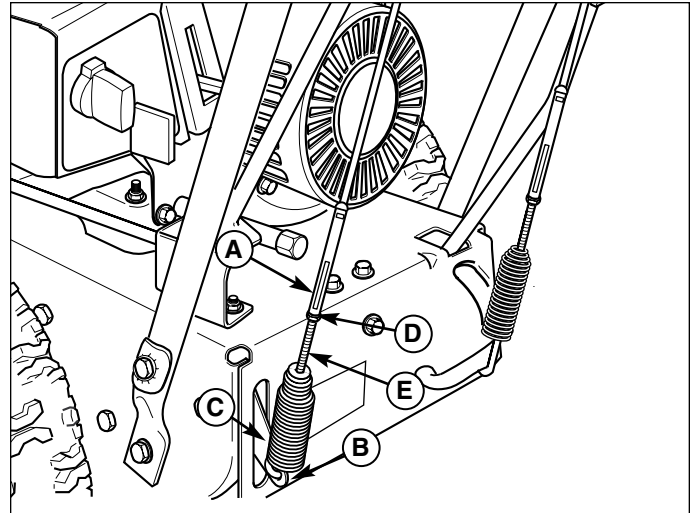

Figure 19. Traction Drive Adjustment
1. Lift the bellcrank arm (C, Figure 19) up as far as it will go.
2. While holding the bell crank arm (C) up, adjust the cable until all the slack is removed.
3. Back the adjustment screw (E) out 7-8 turns. Tighten nut (D).